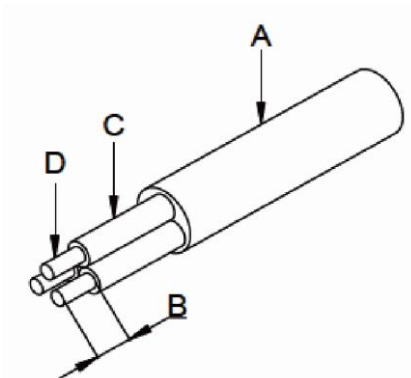

Figure 3-8 Strip off PE/N/L cables
1. Strip off L/N/PE cables as figure 3-8: